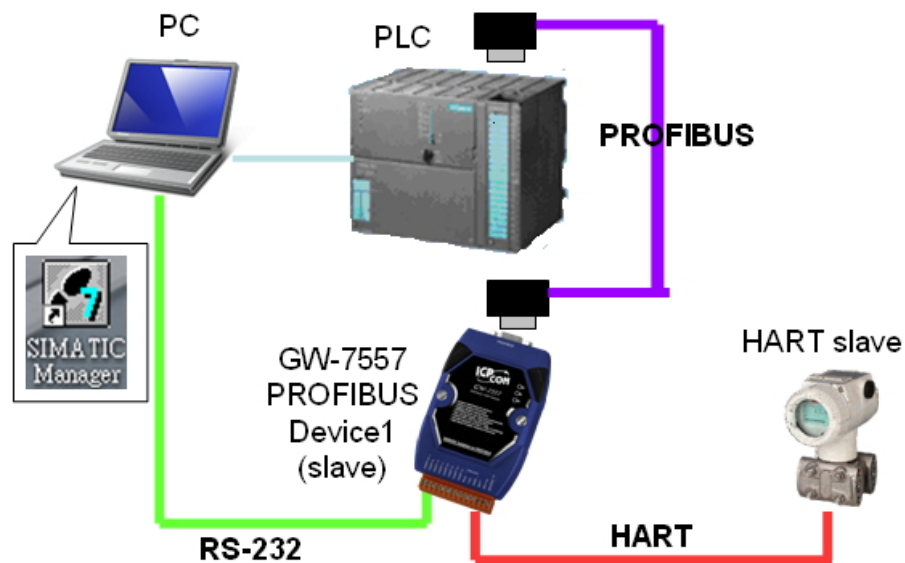

Figure 23 Wiring diagram between PC and GW-7557
- Step 2: Connect the RS-232 port of the GW-7557 module to a COM port of the PC and the PROFIBUS port to a PROFIBUS master (*Figure 23*).